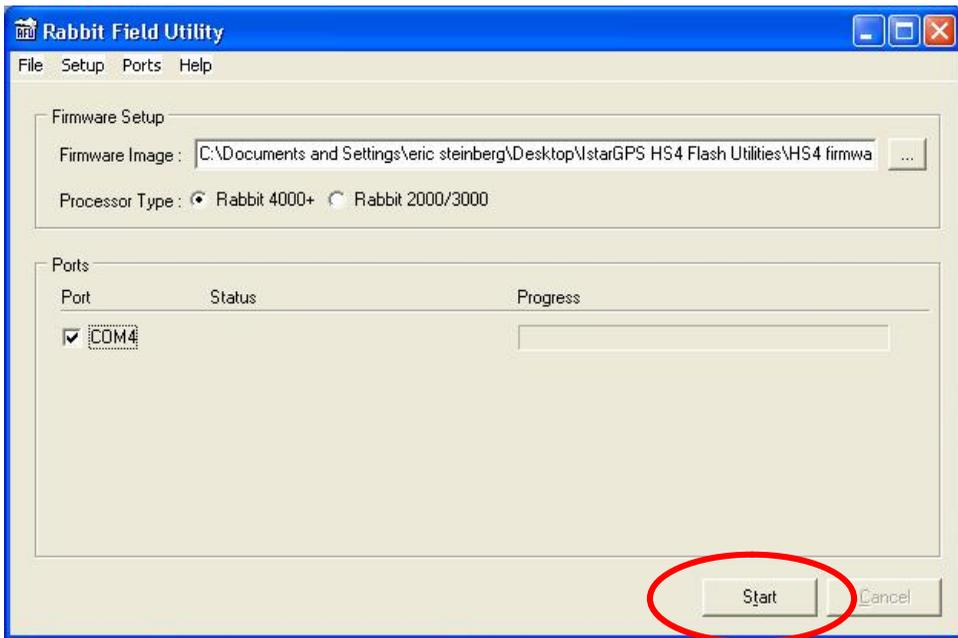

Figure 39 Update Utility com settings
10. After selecting the file, press Start (fig 39), updating will start and status will be indicated. The update takes ~30 seconds.